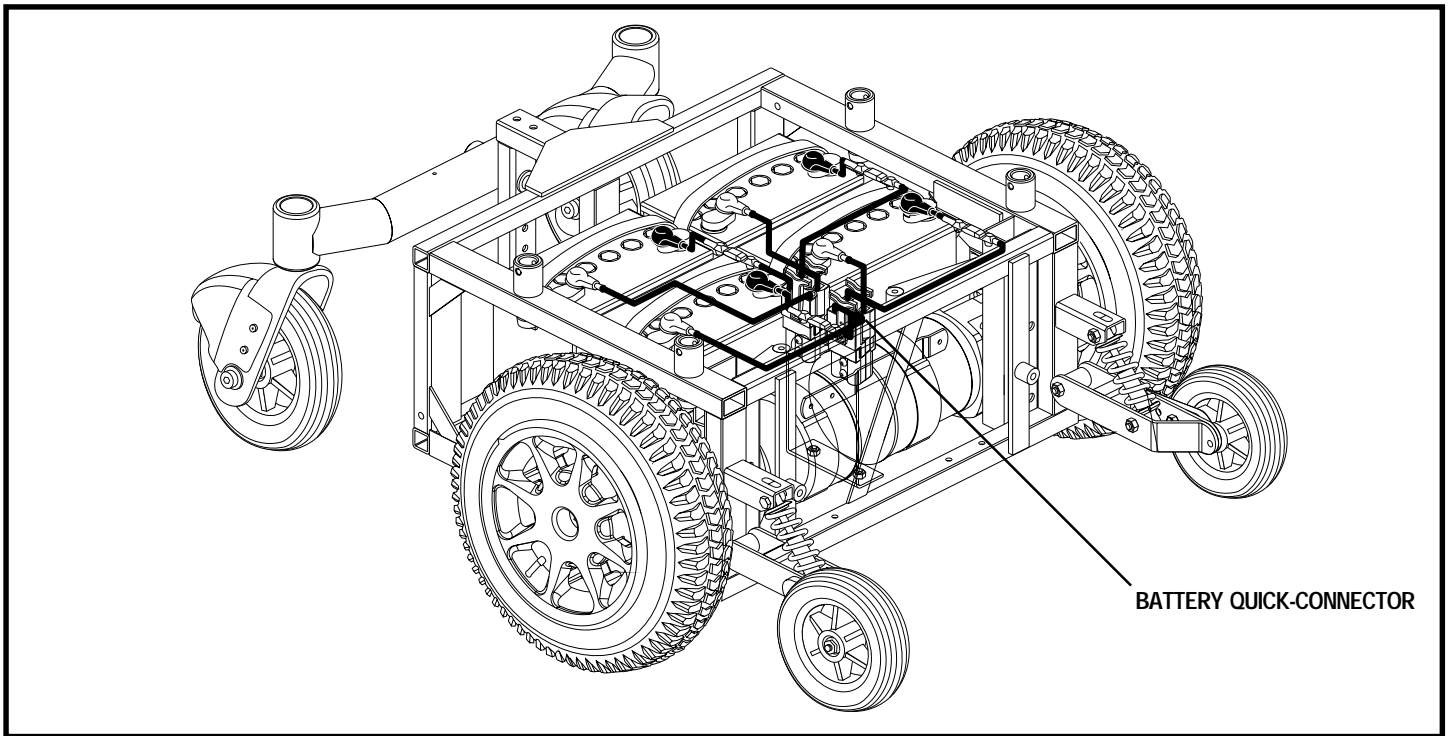

Figure 19. Quantum Jazzy 1650 Battery Connections (4-Battery Configuration)
6. Unplug the battery quick-connector from the powerbase. See figure 19.